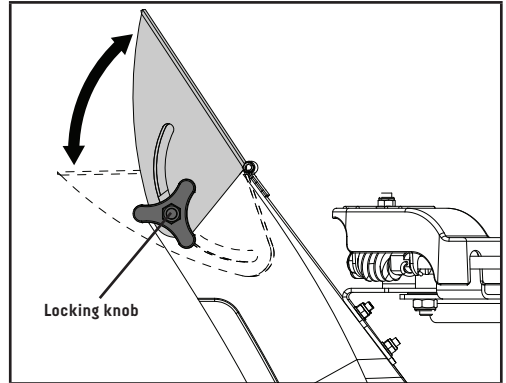

Figure 15
1. Loosen the locking knob to adjust the snow discharge deflector to a suitable height (Fig. 15).